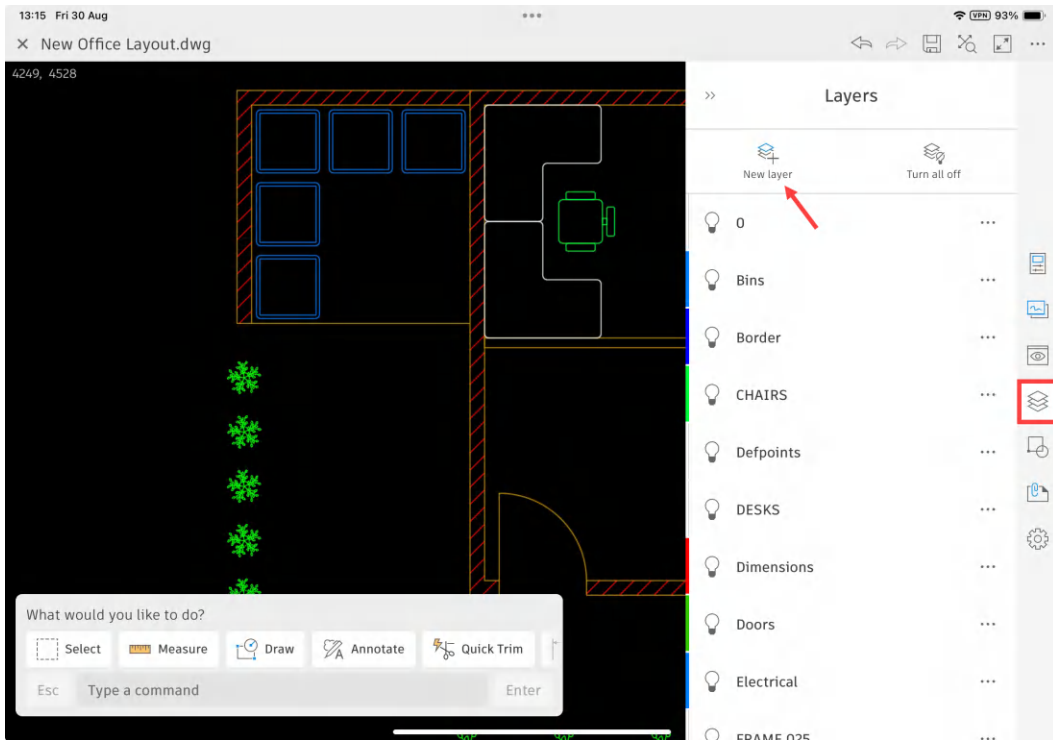

Figure 15.22: The Layers panel in the AutoCAD mobile application
3. Click on the **Layers** icon on the icon menu, as shown in *Figure 15.22*. Then, click on **New layer** (arrowed).